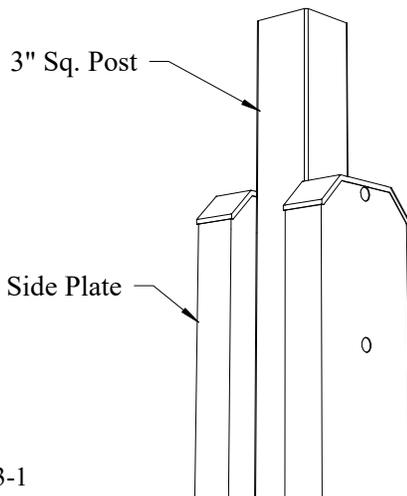

Fig. 3-1
-If your pergola has side plates, center two per post in front of the post along the header (see Fig. 3-1).